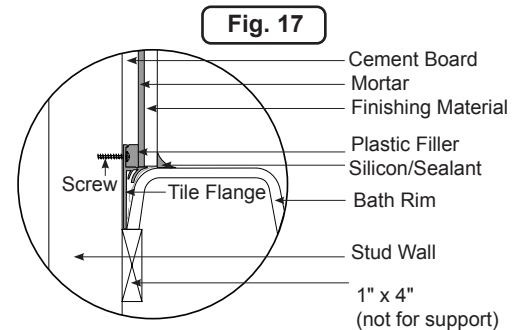

Fig. 17
2. Place the bathtub into the alcove. Screw the flange to the wood stud. It may be necessary to shim the unit to close up any gaps between the wood stud and the flange (Figure 17).